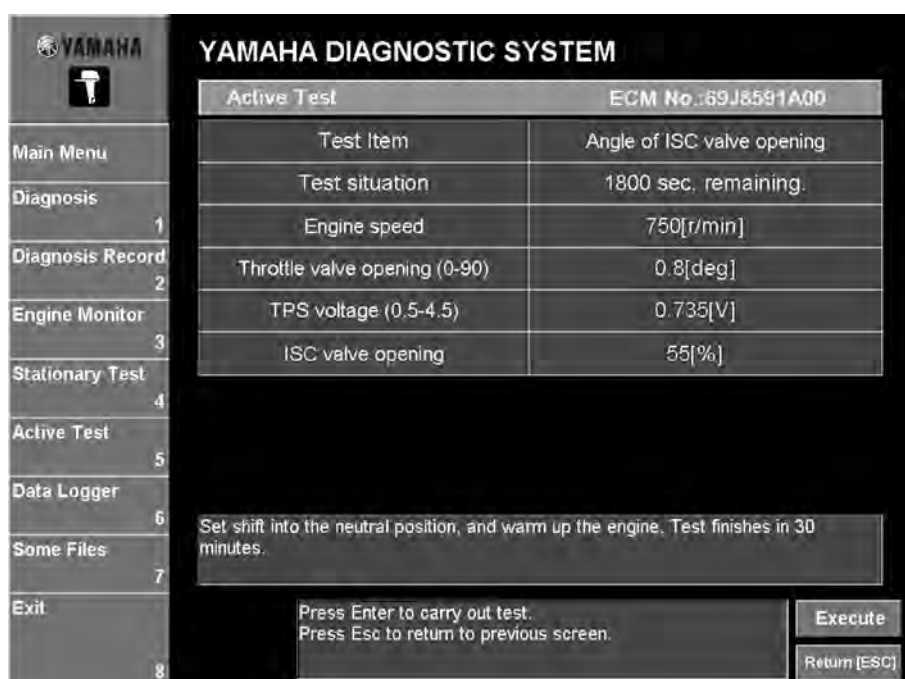

Fig. 105
2. Click the **Execute** button or press the Enter key on your keyboard. (Fig. 105)